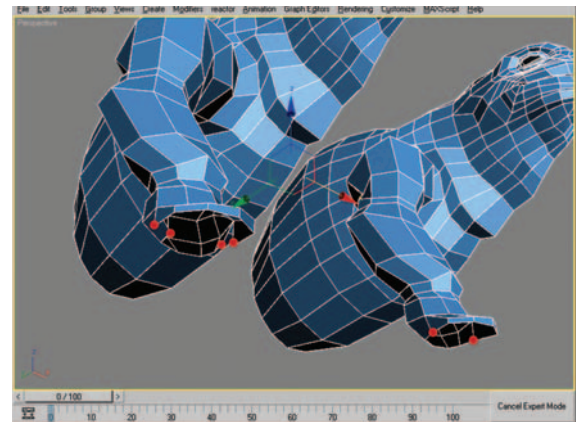

Figure 9.54 Four vertices selected (left) and resulting vertices (2) after using Collapse.
15. Select the four verts shown in Figure 9.54 (left) and use Collapse to create a continuous mesh (Figure 9.54, right).